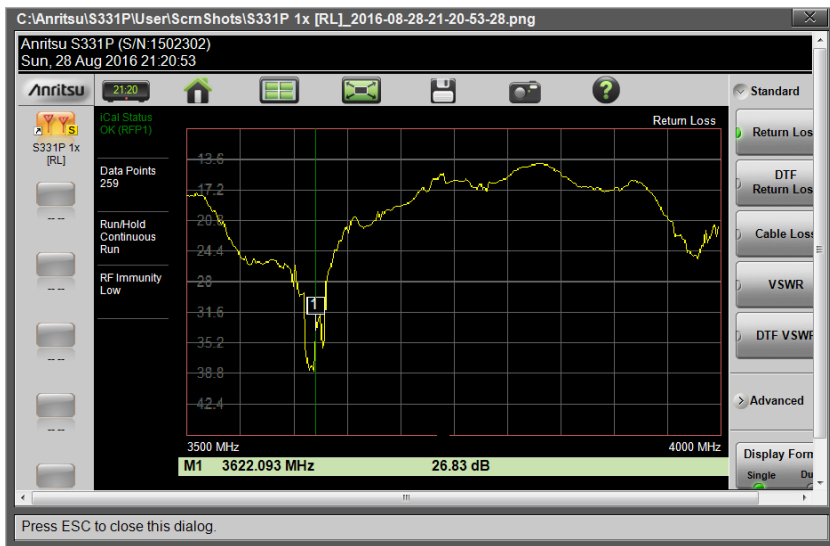

Figure 6-12. Preview of a Recalled Screen Shot
6. A preview screen displaying the selected screen shot is illustrated in Figure 6-12. Press **ESC** to return to the File Recall menu.